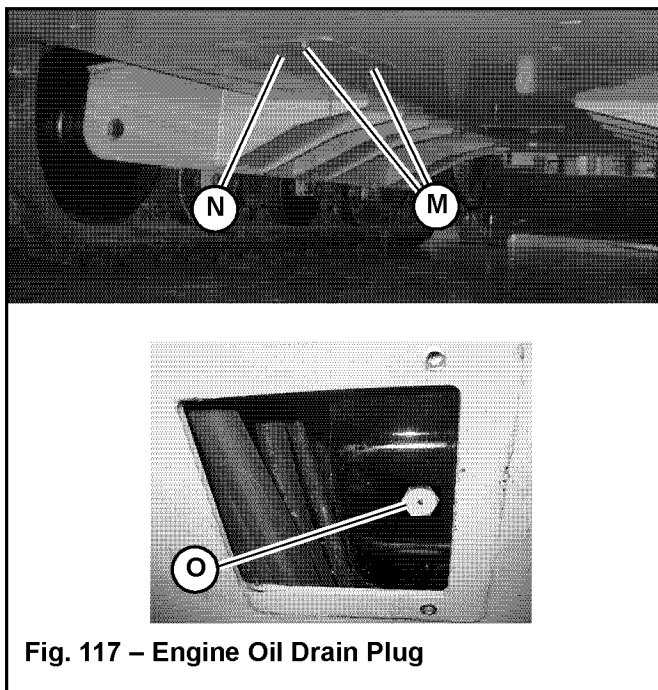
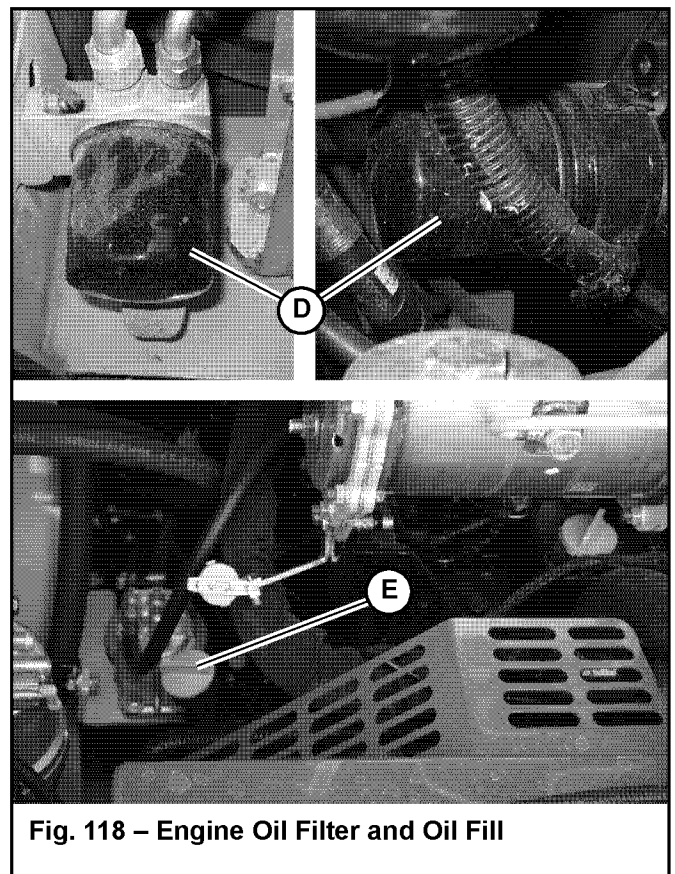

Fig. 117 – Engine Oil Drain Plug
Fig. 118 – Engine Oil Filter and Oil Fill
5. Remove hardware (M, Fig. 117) securing engine drain plug access panel (N). Remove panel to access engine oil drain plug (O).
NOTE: On machines with the oil filter located on the side of the engine, oil filter (D, Fig. 118) is accessed through the drain plug access hole (Q, Fig. 117).
7. Remove drain plug (O) from the engine oil pan and allow the oil to drain into the waste oil collection container.
8. Remove oil filter (D, Fig. 118), using a filter wrench if necessary. Carefully clean the filter head mounting surface with a clean cloth.
NOTE: *On machines with the oil filter located on the side of the engine, oil filter (D, Fig. 118) is accessed through the drain plug access hole (Q, Fig. 117).*